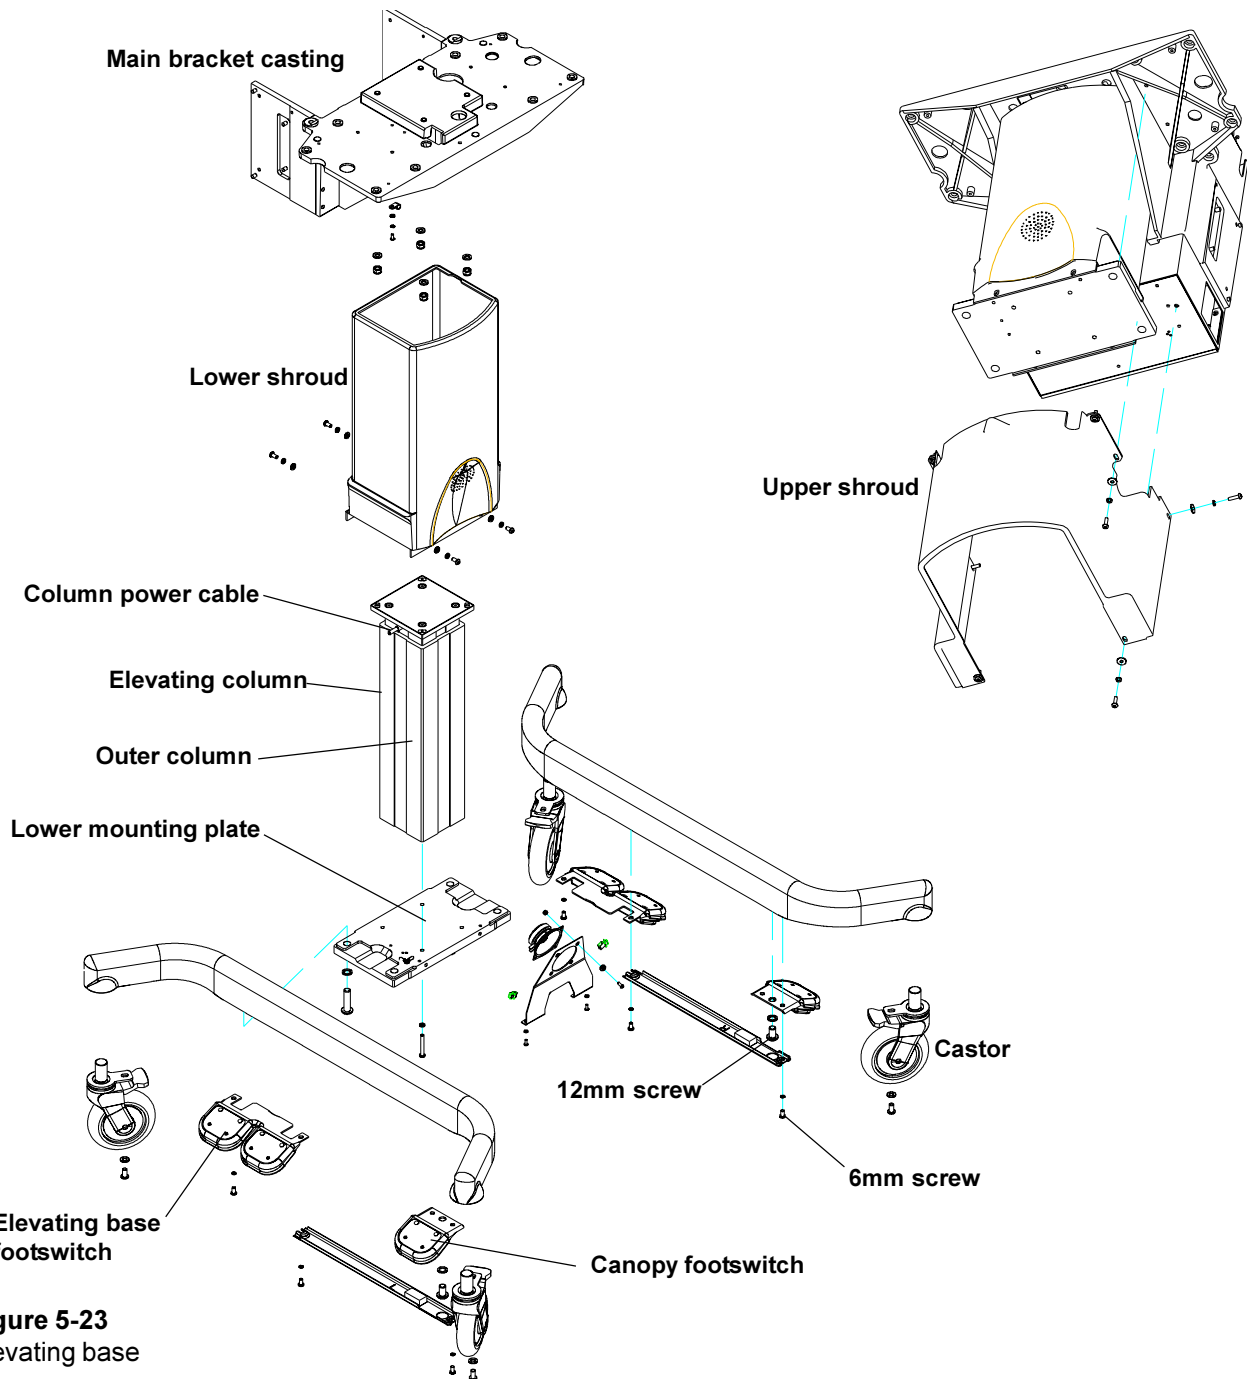

Figure 5-23
5.66 Elevating Base Footswitch (Figure 5-23)
5.67 Canopy Footswitch (Figure 5-23)
5.8 Castor Replacement (Figure 5-23)